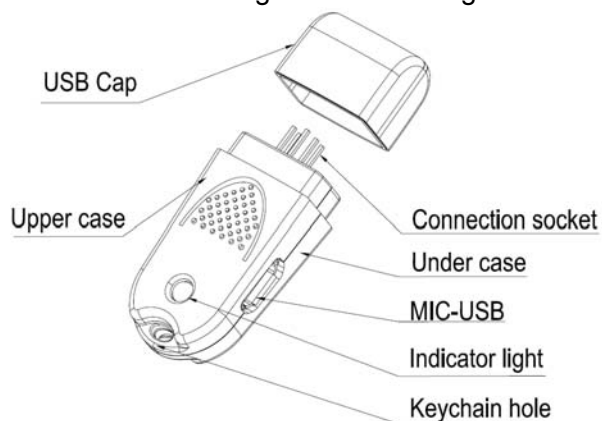

Figure B-1 Uploading and downloading module structure diagram
Uploading and downloading module structure diagram shown in figure B-1:
Step 1: Installing the upload and download module in the inverter control board UP / DOWNLOAD location (As shown in figure B-1) .